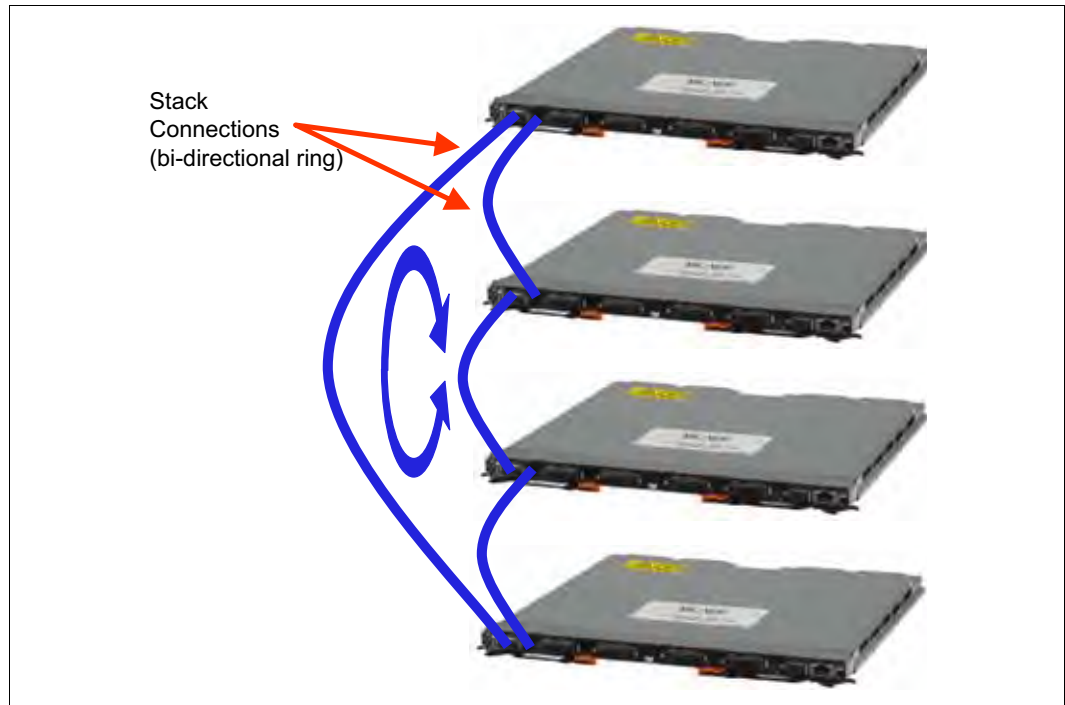

Figure 4-4 IBM Switch stacking bidirectional topology
- ▶ The preferred stacking topology is a bidirectional ring (see Figure 4-4 on page 431). To achieve this topology, two external 10 Gb Ethernet ports on each switch must be reserved for stacking. By default, the first two 10 Gb Ethernet ports are used.